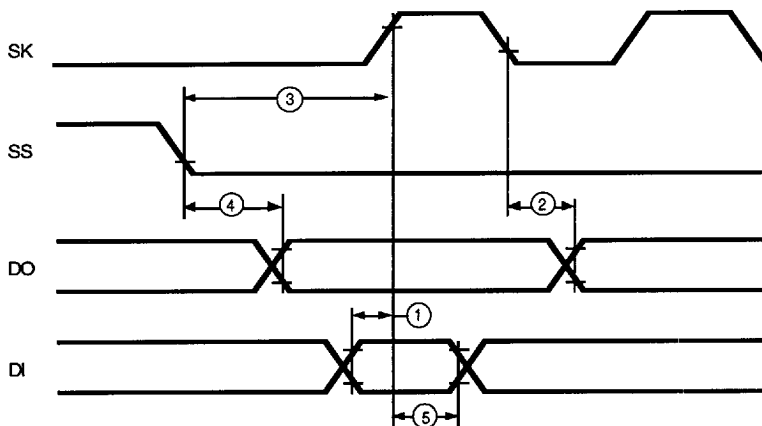

Figure 43. SPI Timing
When the communication between the master and slave is complete, the SS goes inactive. Unless disconnected, for every bit that is transferred into the slave through the DI pin, a bit is transferred out through the DO pin on the opposite clock edge. During slave operation, the SPI clock pin (SK) is an input (Figure 43). In master mode, the CPU must first activate a SS through one of its I/O ports. Next, data is transferred through the master's DO pin one bit per master clock cycle. Loading data into the shift register initiates the transfer. In master mode, the master's clock drives the slave's clock. At the conclusion of a transfer, a Receive Character Available (RCA/IRQ0) interrupt and flag is generated. Before data is transferred through the DO pin, the SPI Enable bit in the SCON Register must be enabled.